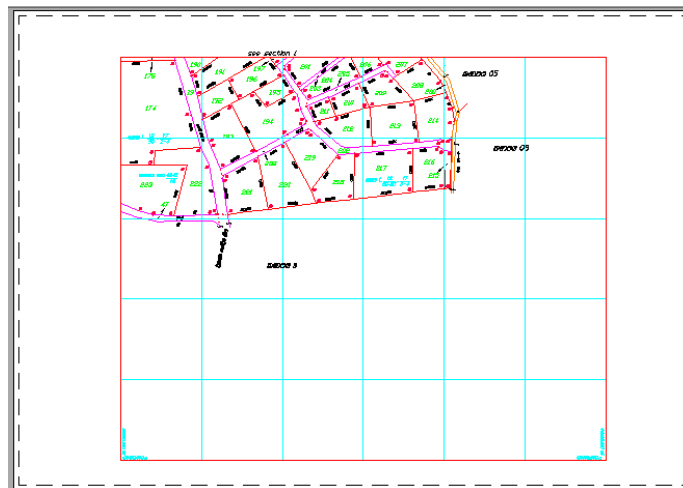

Figure 3: Scaled Sectional Drawing on Viewport
- Now your layout is ready for printing (see figure 3).